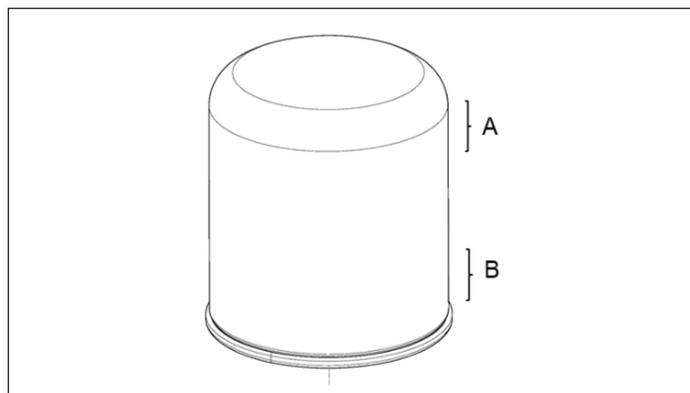

Figure 2 – Desiccant Cartridge Filter Wrench Placement
3. Remove and retain the five (5) M12 mounting bolts that secure the air dryer and attached core module to the vehicle.
**NOTE:** If using a filter wrench, place the filter wrench on areas *A* or *B* as shown in *Figure 2* to avoid damage to the cartridge. If a filter wrench is used in the middle of the cartridge, damage may occur.
**NOTE:** Place the filter wrench only on areas A or B as shown in *Figure 2* to avoid damage to the cartridge.
8. Secure the core module to the vehicle using the five (5) original M12 mounting bolts that were removed during disassembly. Torque to 55 ft-lbs (75 N•m).